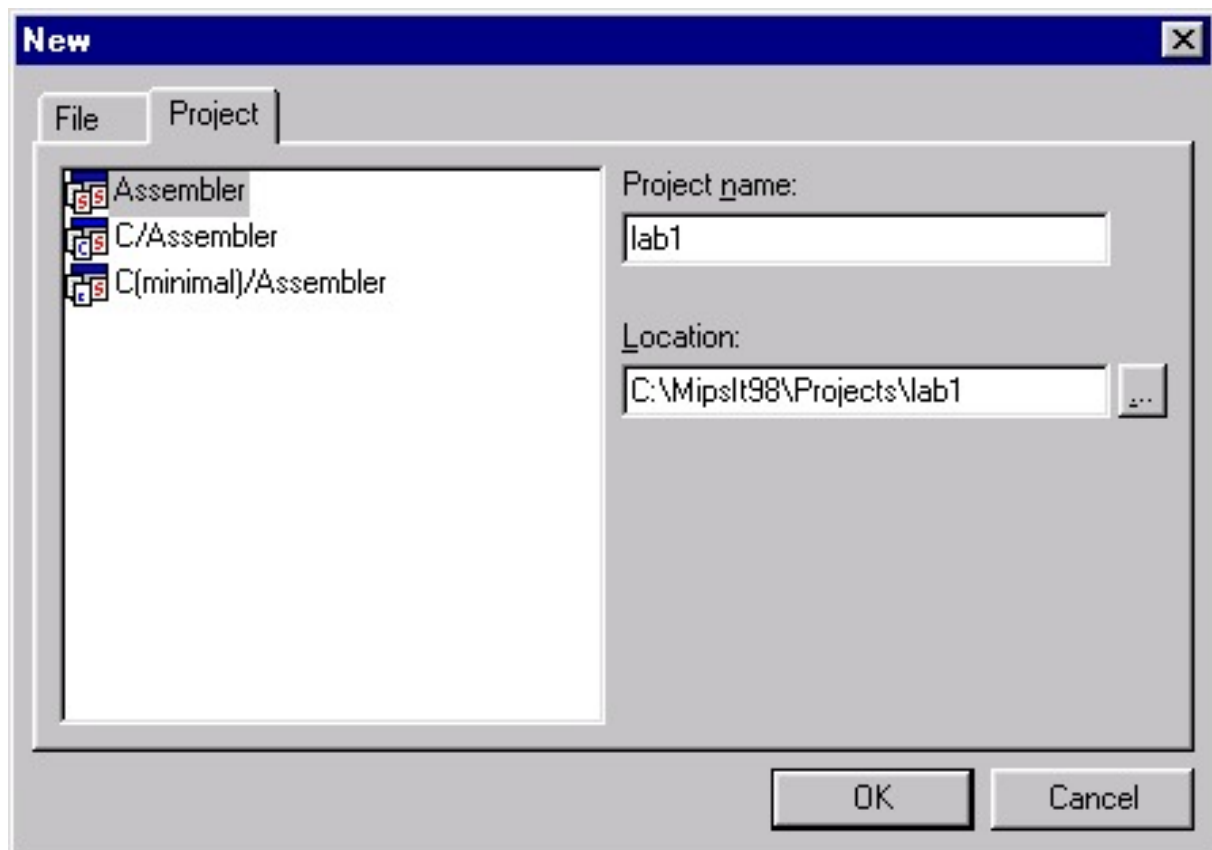

Figure 2: The 'New' dialog, Project tab.
- Choose 'New' from the 'File' menu, and then click the Project tab (if it is not already selected) in the resulting New dialog box shown in Figure 2.